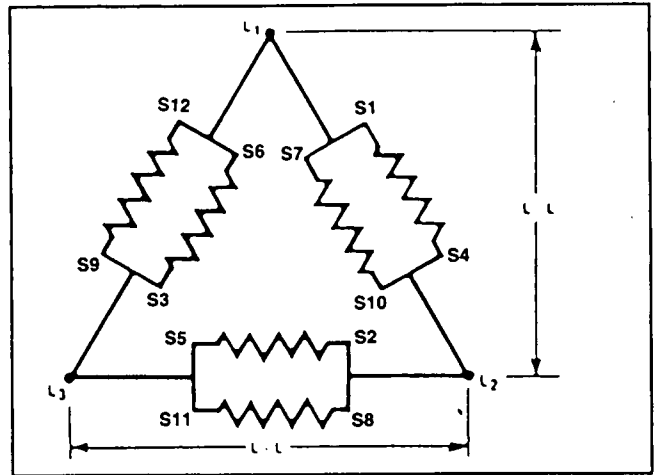

**Figure 5. High Delta Connection System**
This type of stator has six (6) windings and twelve (12) leads coming out. See Figure 5. The stator can be used to supply the voltages indicated in the following CHART.